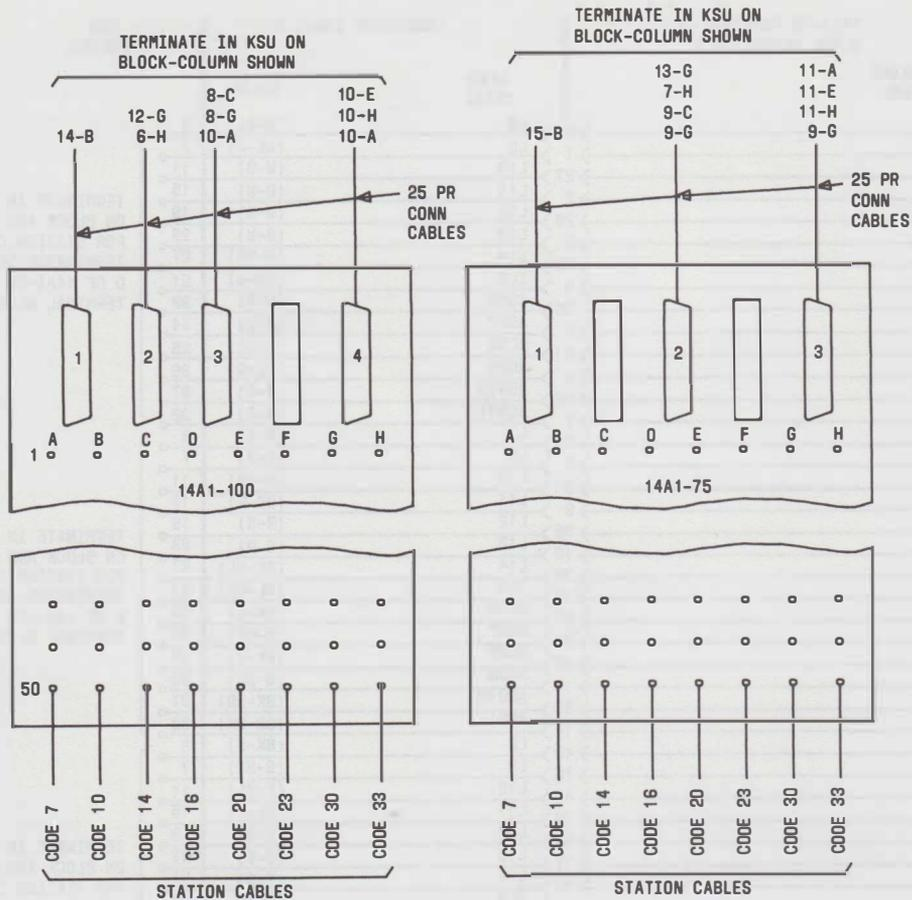

Fig. 19—Example of Satellite Wiring Using 14A1-Type Terminal Blocks
3.17 For the purpose of illustration, assume a satellite made up of station codes 7, 10, 14, 16, 20, 23, 30, and 33. One 14A1-100 terminal block will be required for the first binder of the station cables and one 14A1-75 for the second binder. Three stations (7, 10, 14) are in lamp group A and five stations (16, 20, 23, 30, 33) are in lamp group B, requiring terminations and the placing of the bridging clips for a 3/5 combination as shown in Fig. 16. The station cables are terminated so that the three stations of group A appear on columns A, B, and C (codes 7, 10, 14, respectively), and the five stations of group B are on columns D, E, F, G, and H (codes 16, 20, 23, 30, 33, respectively) as shown in Fig. 19.
KSU as shown in Fig. 17 and 18. For this example, cable No. 1 from the 14A1-100 is terminated where the cable for the station appearing on column H of the terminal block (code 33) would be terminated if home-run, that is, block 14, column B. Cable No. 2 provides the additional lamp and lamp ground leads plus the individual code leads for the stations on columns G and A of the 14A1-100 (codes 30 and 7), so it is terminated on block 12, column G, and block 6, column H. In addition, the four A1 leads can be obtained on any of the spare terminations of the satellite stations. Cables 3 and 4 are terminated in a like manner on the designated blocks and columns. The three cables from the 14A1-75 are also terminated in the KSU on the blocks and columns shown in Fig. 19 and provide access to the second binder leads plus the additional lamp and lamp ground leads.